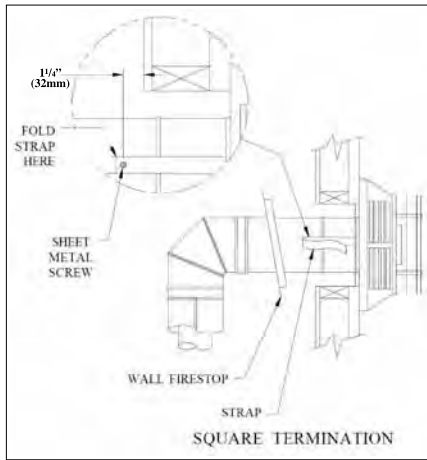

Figure 38: Installation of Vent Pipe to Termination.
vent pipe into the vent cap assembly. It is important that the vent pipe extend into the vent cap sufficient distance so as to result in a minimum pipe overlap of 1¼ inches (32mm). Secure the connection between the vent pipe and the vent cap. For square caps, attach the two (2) sheet metal strips extending from the vent cap assembly into the outer wall of the vent pipe. Use the two sheet metal screws provided to connect the sheet metal strips to the pipe section. For round caps, use three sheet metal screws and attach cap to pipe section (see Figure 38).